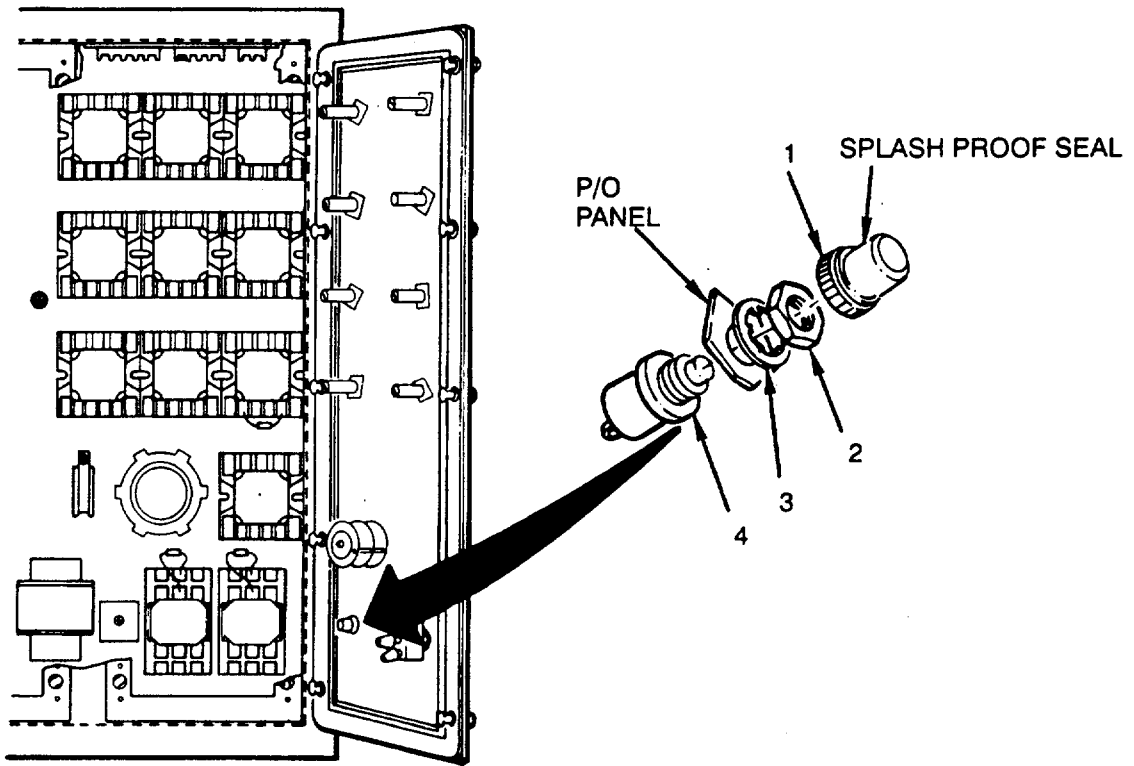

Figure 4-62. Fault Reset Switch (S12)
1. Check switch (4) to see that leads are properly connected (see Figure 4-62 and Figure FO-3).
3. Check that switch (4) terminals are not loose, broken, or corroded. Replace switch, if defective.
4. Check switch (4) for signs of overheating or other visible damage. Replace switch, if defective.